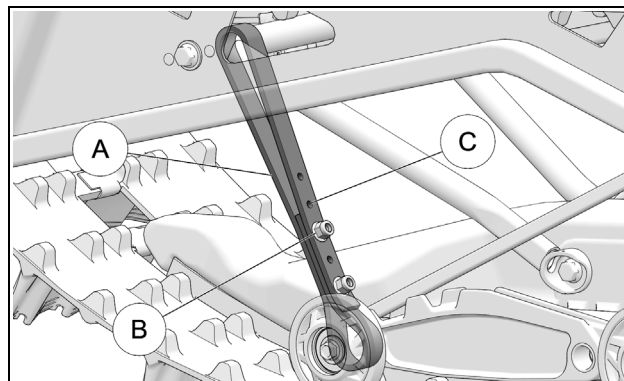

Figure 38
Inspect condition of Suspension Limiter Strap (A). If it shows abnormal wear or degradation anywhere along its length. Verify that the bolts (B) are solidly secured and that the bolt holes (C) in the strap are not deformed. Replace the Limiter Strap if it shows defects. Figure 38.